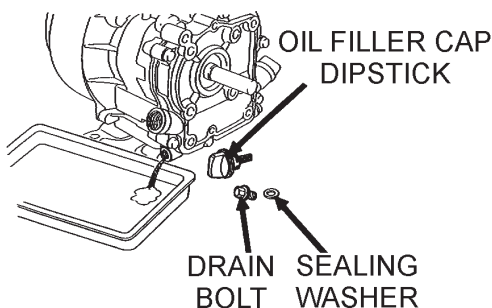

Figure 13. Draining Engine Oil
1. Drain the engine oil when the oil is warm as shown in Figure 13.